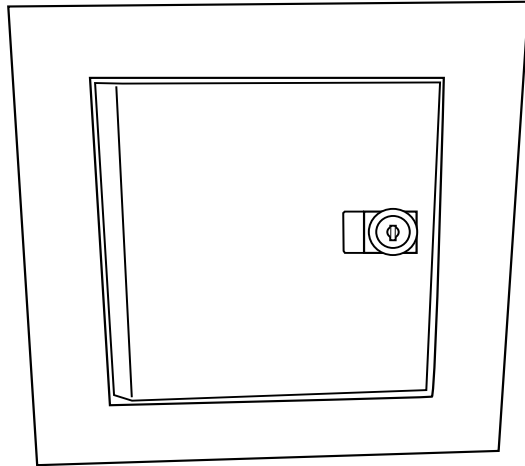

Fig. 8 Cabinet door closed and locked.
Step 7: Insert key into the lock, push door closed, turn key clockwise to lock cabinet. Remove key. See Fig. 8.